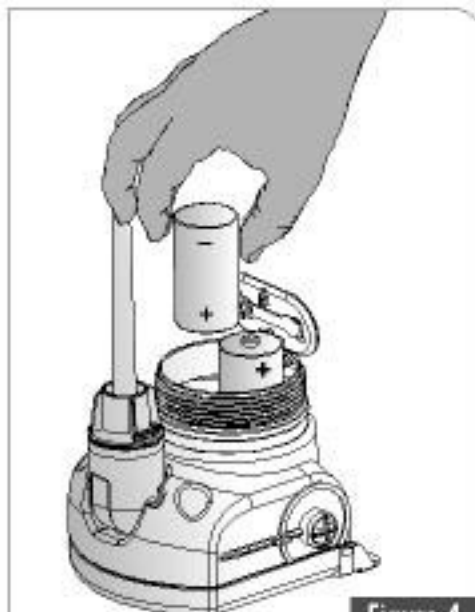

Figure 4
a. Insert the batteries (1.5 VDC) according to Figure 4.